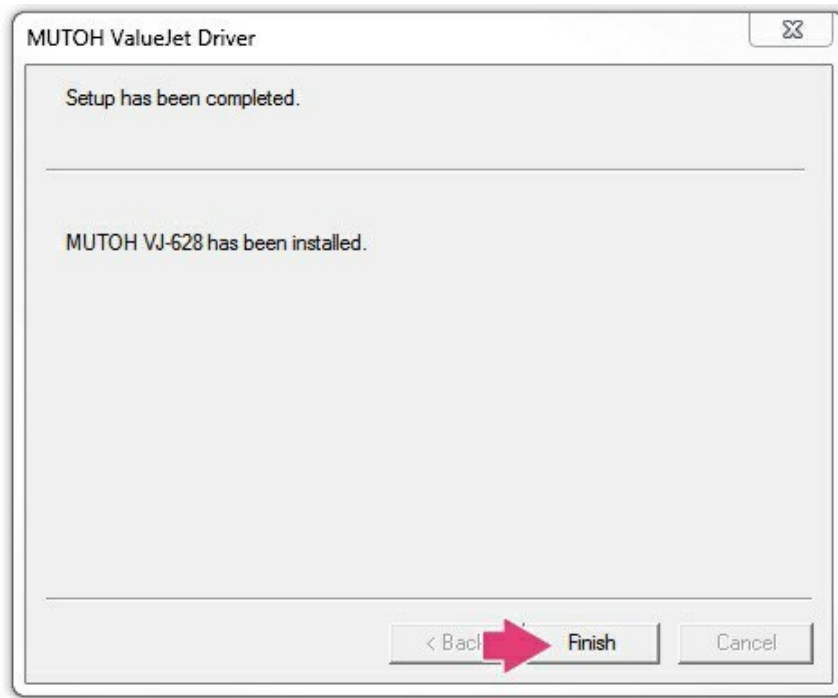

Figure 35
22. The setup is now complete. Select **Finish**. See Figure 35.